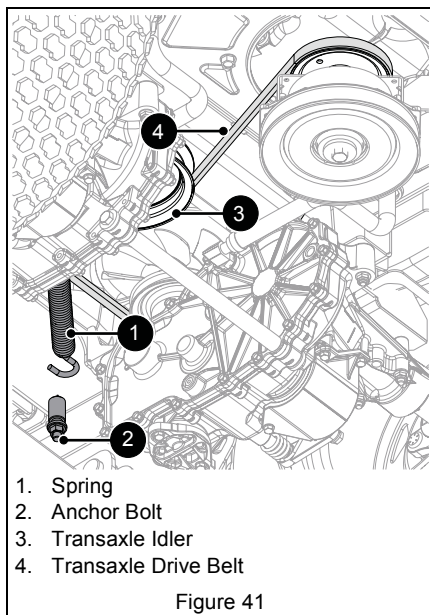

Figure 41
3. Under unit, slowly remove spring hook from anchor bolt to release transaxle idler tension. See Figure 41.